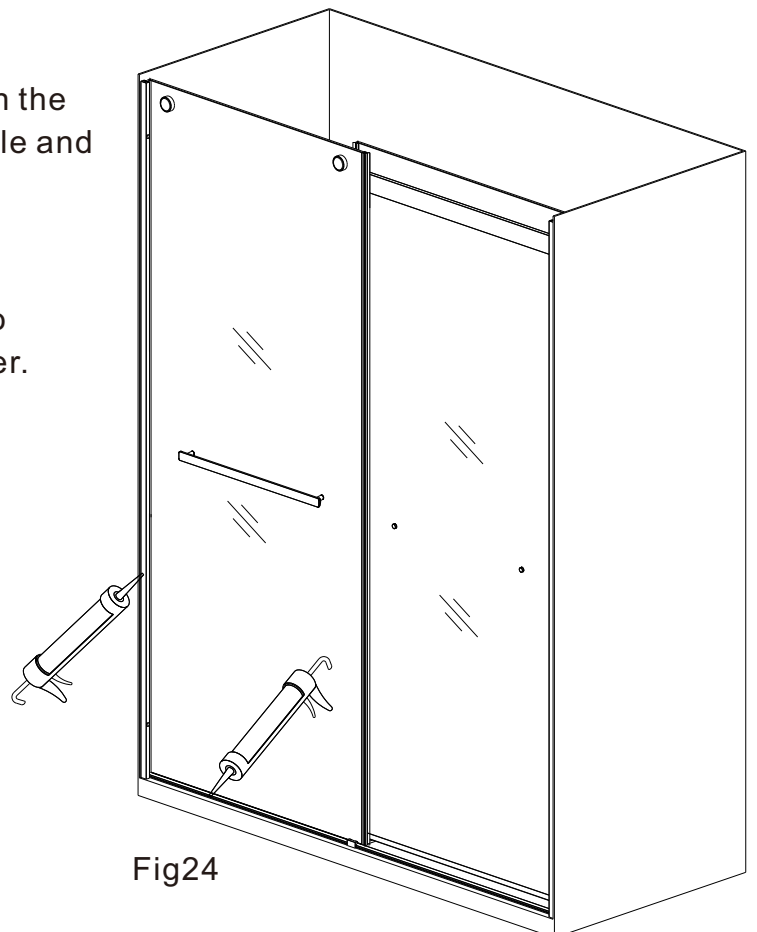

Fig24
1. Apply a good quality Silicone Sealant on the walls and threshold along the bottom profile and wall profiles(Fig 24).